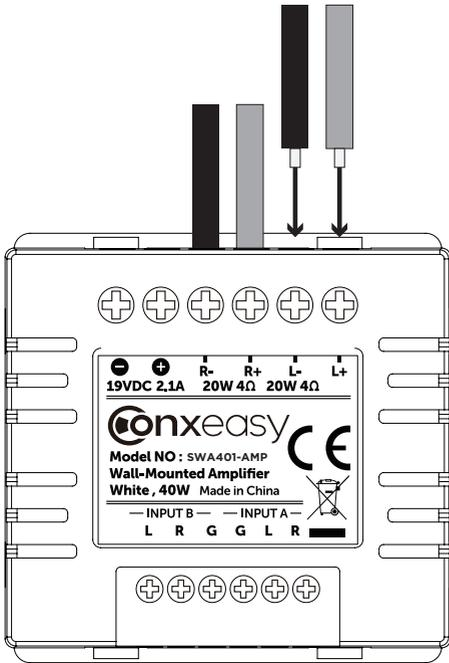

Fig. 1.
STEP 2: Define the best location for the speakers that will be connected to the SWA401-AMP amplifier. These can be in wall, in ceiling, floor standing, or bookshelf speakers, but should not present less than an 4-ohm load to the amplifier. 16-gauge speaker wire, either two or four conductor, is recommended for this purpose. The wire should be routed to the cutout for the SWA401-AMP for termination into the back of the component, as shown in fig. 1.